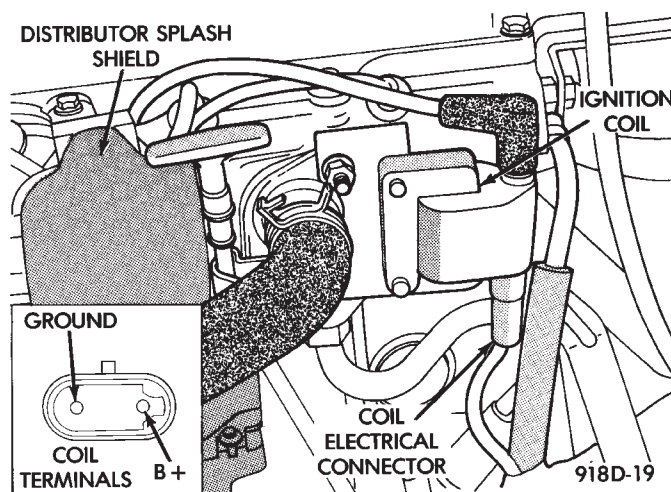
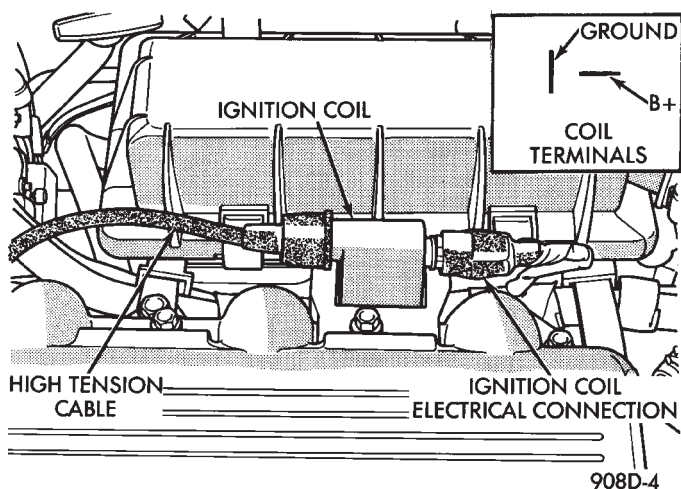

Fig. 2 Coil Terminals—2.2L TBI, 2.5L TBI and Turbo I Engines
Fig. 3 Coil Terminals—3.0L Engine
(1) Battery voltage must be at least 12.4 volts to perform test.
(2) Crank the engine for 5 seconds while monitoring the voltage at the coil positive (+) terminal (Fig. 2 or Fig. 3). If the voltage remains near zero during the entire period of cranking, refer to Group 14 for On-Board Diagnostic checks. Also, refer to the DRB II tester and the appropriate Powertrain Diagnostic Procedures manual. These checks will help diagnose problems with the engine controller and auto shut-down relay.